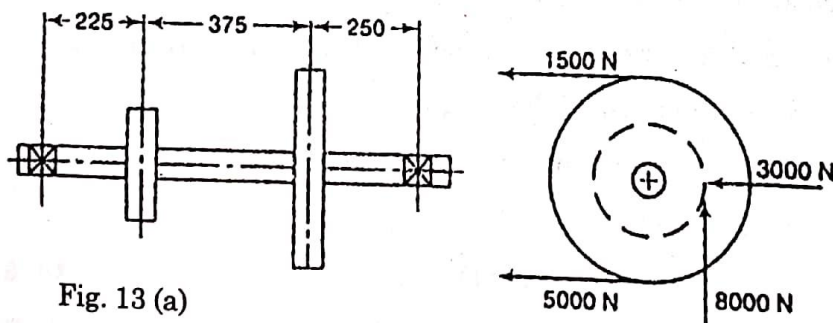

Fig. 13 (a)
13. a) A 600 mm diameter pulley driven by a horizontal belt transmits power through a solid shaft to a 262 mm diameter pinion which drives a matting gear. The pulley weighs 1200 N to provide some flywheel effect. The arrangement of elements, the belt tensions and components of the gear reactions on the pinion are as indicated in Figure 13(a). Determine the necessary shaft diameter using a suitable value for commercial shafting and shock fatigue factors of  $K_b = 2$  and  $K_t = 15$ .